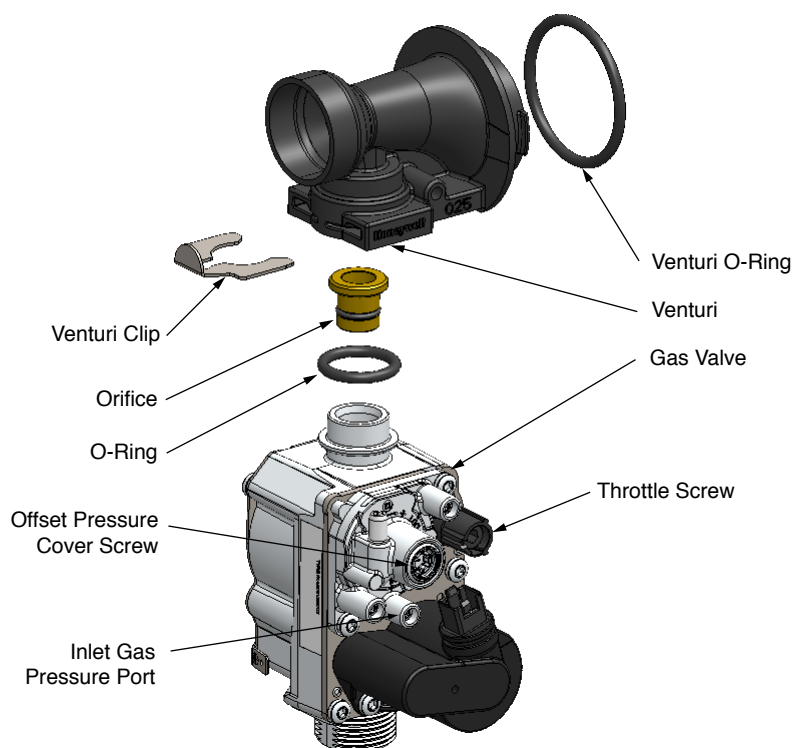
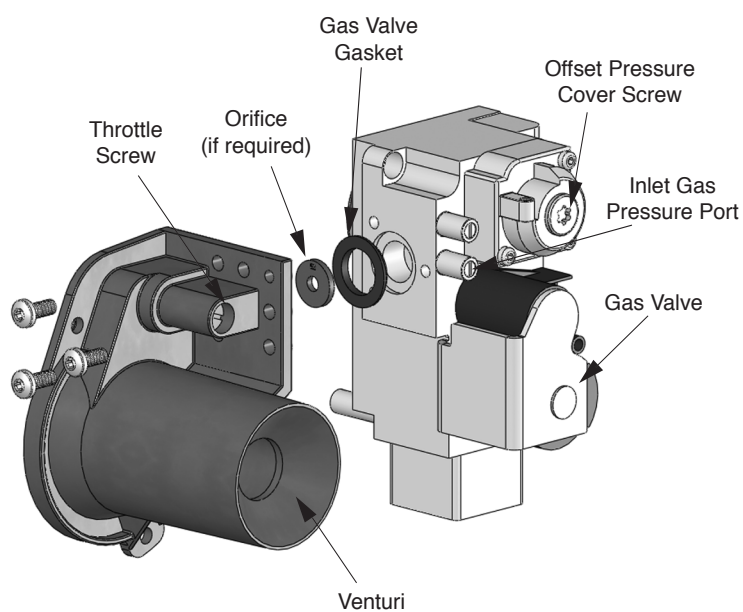
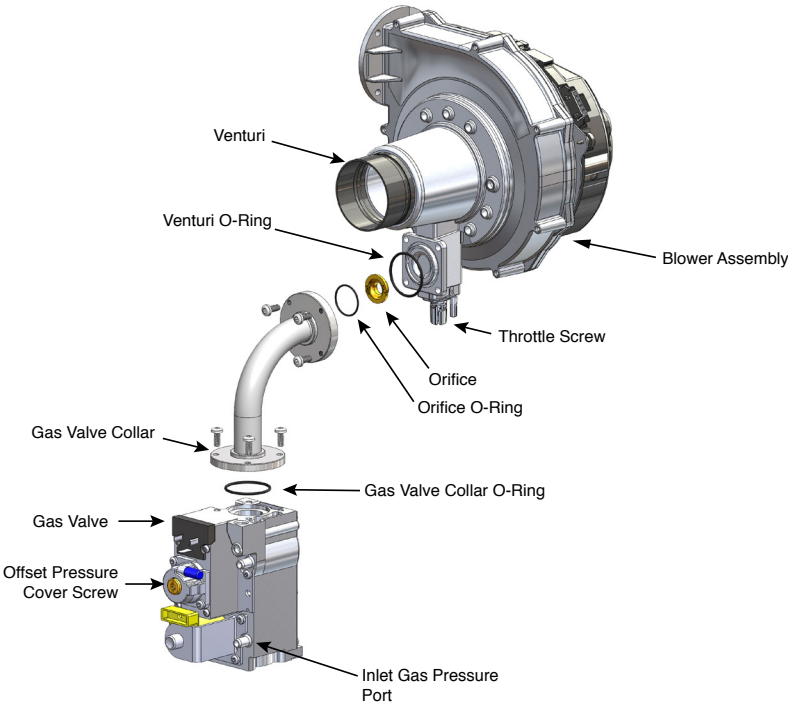

Fig. 16 - Gas Valve / Venturi Assembly - PRESTIGE Solo 80-110
Fig. 17 - Gas Valve / Venturi Assembly - PRESTIGE Solo 155/175/250
Fig. 18 - Gas Valve / Venturi Assembly - PRESTIGE Solo 299/399
- Prior to start up, ensure the unit is set to fire propane. Check the rating label for the type of fuel. Check the gas valve for propane conversion label. If there is a conflict or doubt on the burner set up, remove the gas valve and check for the propane orifice, see Fig. 16 or Fig. 17 on page 30 or Fig. 18 on page 31.